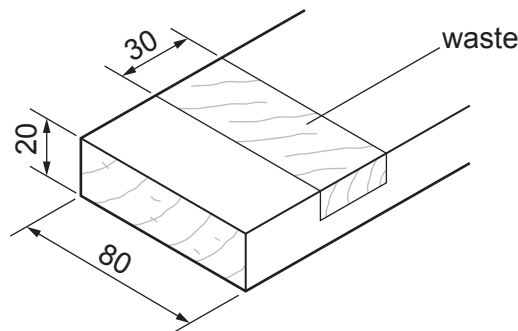

Fig. 8.1
- 8 Fig. 8.1 shows a through housing joint marked out on a length of hardwood.